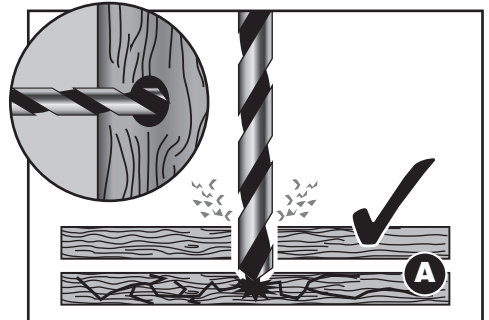

FIG.11
9.9 DRILLING WOOD AND PLASTIC – FIG. 11